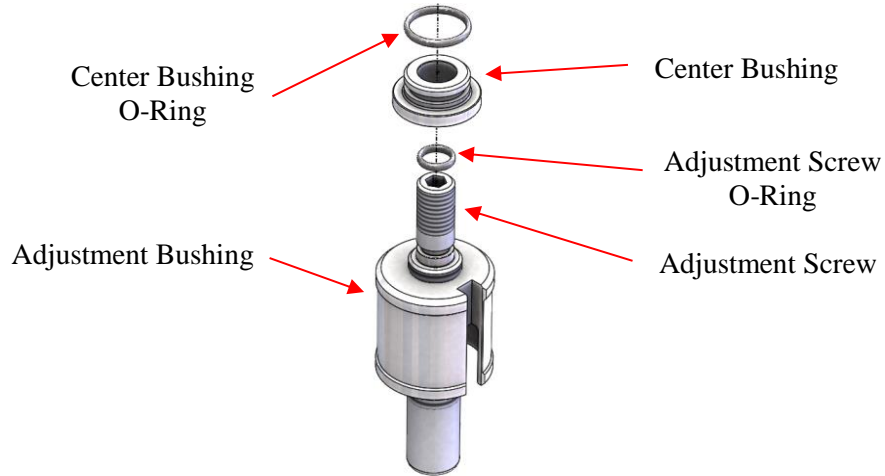

Figure 15: 1" Body Inner Bonnet Components
13. Disassemble the center bushing from the adjustment screw if they are still together. See Figure 15.
15. Remove and discard the o-ring located on the adjustment screw. See Figure 15.
16. Unscrew the adjustment bushing from the adjustment screw. The adjustment bushing has left handed threads. See Figure 15.